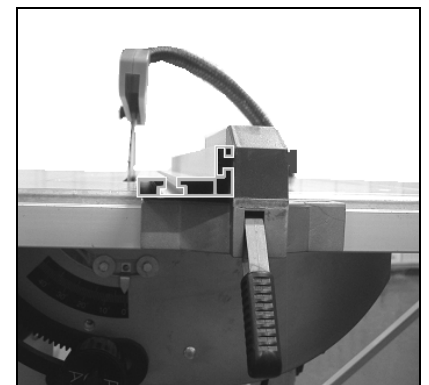

Fig 18
-The cutting of small workpieces (width less than 120mm) and tilted cuts shall only be performed with the rip fence profile placed flat (Fig 18).